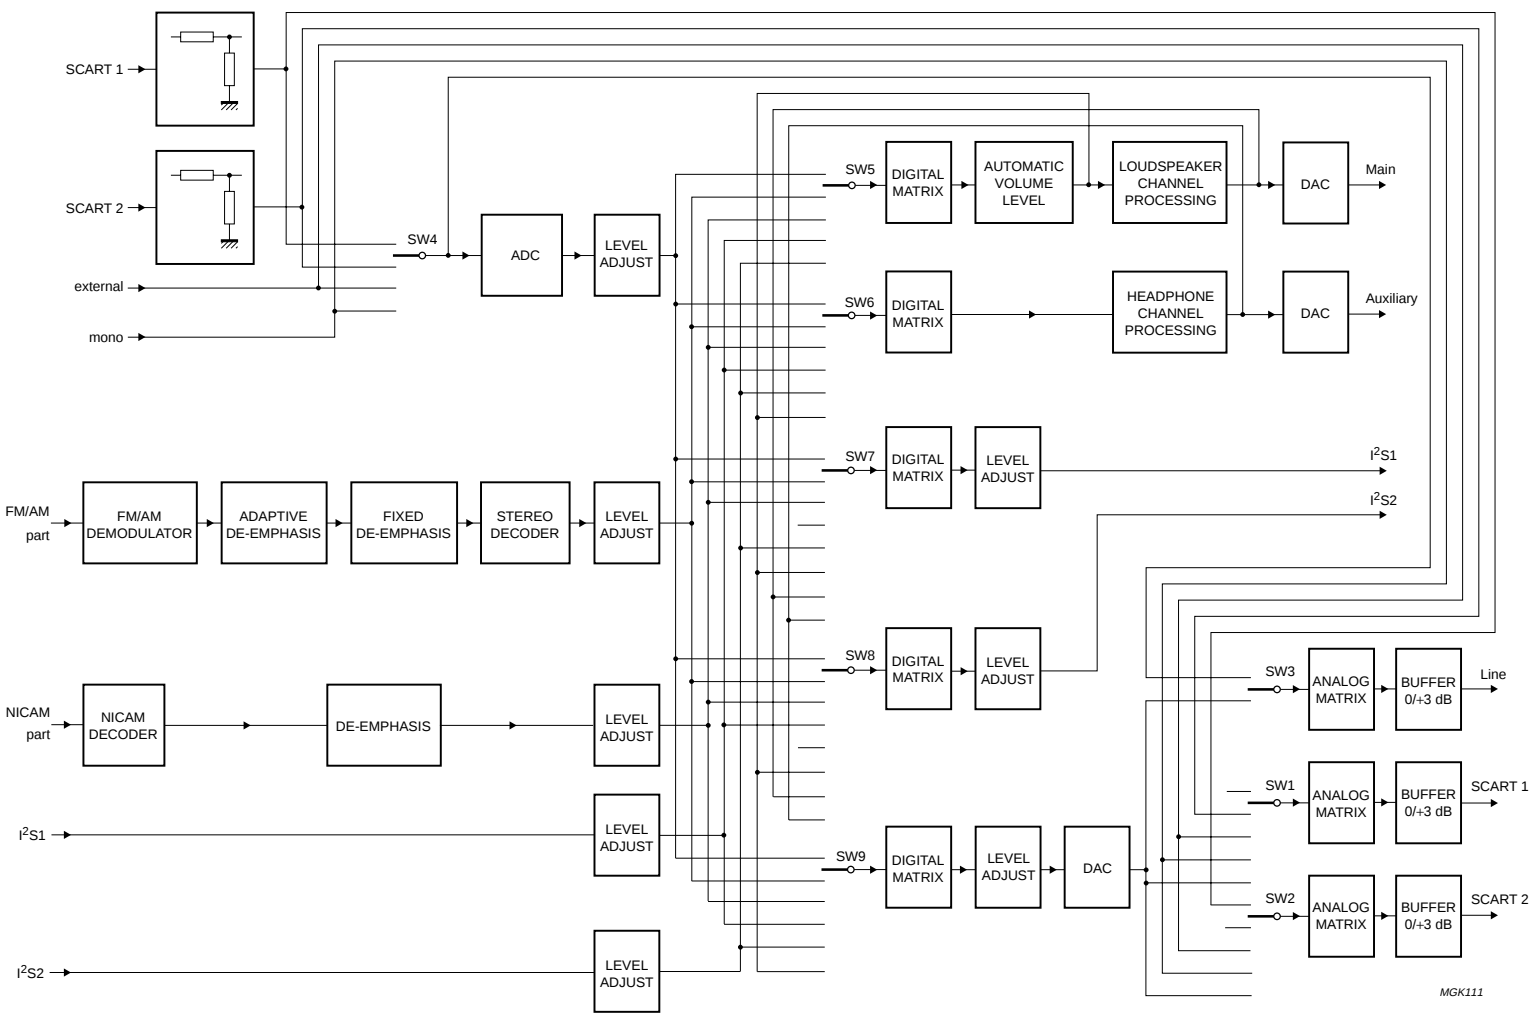

Fig.6 Audio signal flow diagram.
6.2.11 DIGITAL CROSSBAR SWITCH (SEE Fig.6)
(see also Fig.6)